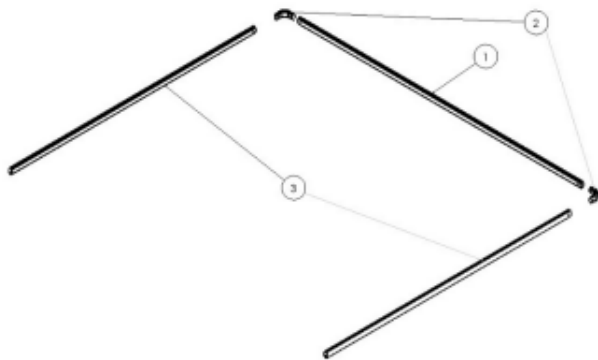

Figure 4.9
Lay the cross tube (1) on the ground behind the truck. Slide the 90-degree elbows (2) into the cross tube so that they are pointing toward the truck. Slide the upper arms (3) over each of the 90-degree corners. Verify that the cross tube is the right size by checking to see that the upper arms can be slid into the lower arms. If the cross tube is too long cut it to size. (Figure 4.9)